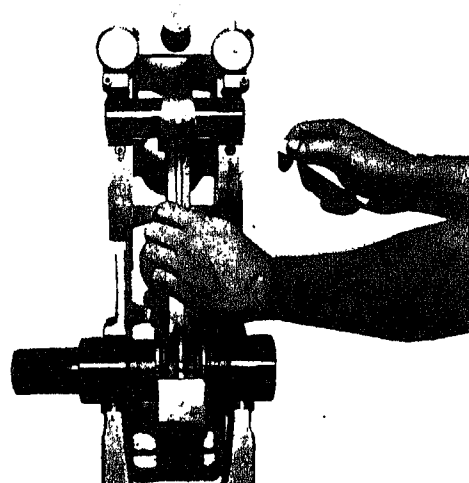

Fig. 1-8-4. Checking rod twist
6. Measure rod twist with a feeler gauge between piston pin and dial holding plate, Fig. 1-8-4. When measuring connecting rod twist in **tool** and rod **does not contain piston pin bushing**, twist must not exceed 0.020 in. [0.5080 mm]. Twist must not exceed 0.010 in. [0.2540 mm] **with bushing** in place and bored to size.